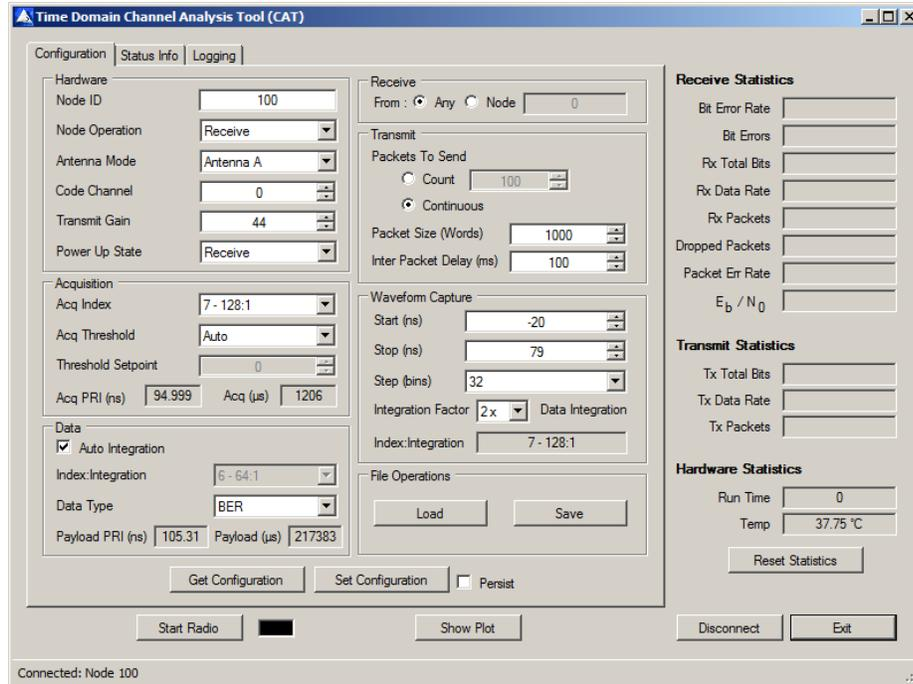

Fig. 22: CAT connected to the P440
3. If the connection is successful, click the **Connect!** button. The main operating window will open (**Figure 22**). In the bottom left corner you should see a message confirming that CAT is connected to Node 100.